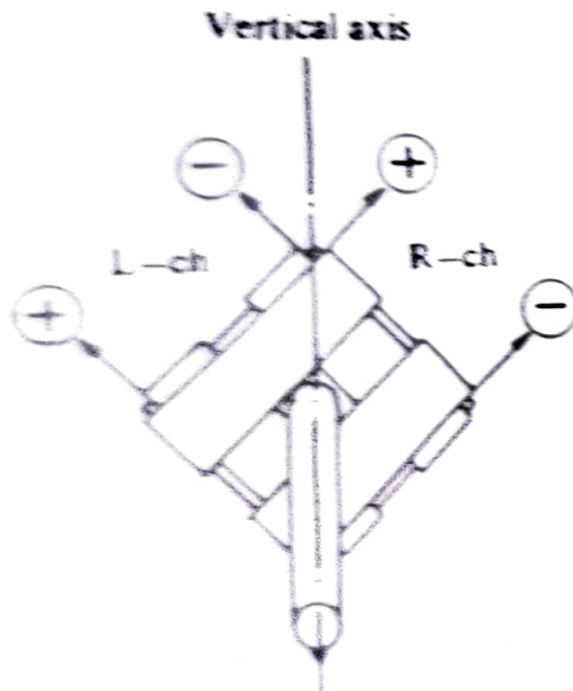

Fig. 1 Conventional coils
Let's consider the coil winding method, item 2. The method normally used is shown in figure 1. It is mechanically symmetrical around a vertical axis,